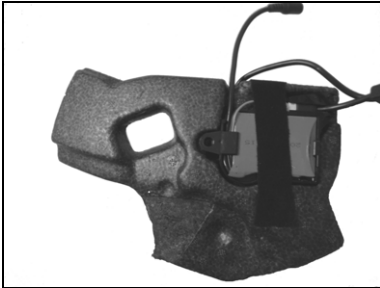

Fig. 19
- Position the battery in the right polystyrene cheek pad housing and secure it using the ribbon (Fig. 19).